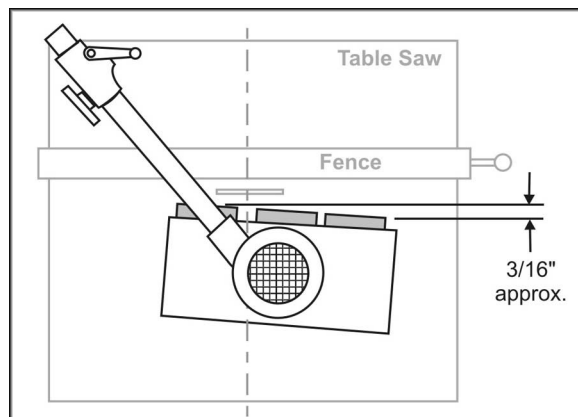

Figure 19
1. Position the 3-roller stock feeder so that the axis of the saw blade lines up between the center roller and outfeed roller. (See Figure 19.) Position the 4-roller stock feeder so that the axis of the saw blade lines up between the center wheels. These positions will allow the Stock Feeder to grip the offcut of the workpiece as it leaves the blade.
2. Rotate the Stock Feeder so that the direction of feed is angled slightly toward the fence by approximately $3/16"$ (5mm); that is, the outfeed roller should be slightly closer to the fence than the infeed roller. See Figure 19.